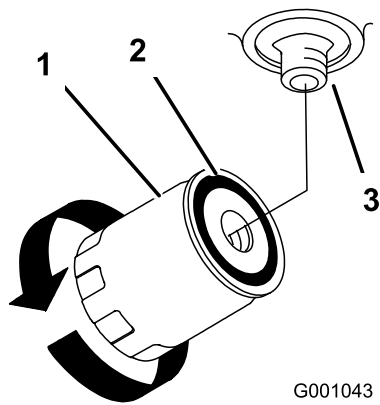

Figure 50
4. Locate filter under engine base and place drain pan under filter (Figure 50).
5. Remove the old filter and wipe the filter adapter gasket surface clean (Figure 50).
9. When the hydraulic filter is full, turn the oil filter clockwise until the rubber gasket contacts the filter adapter, then tighten the filter an additional 1/2 turn (Figure 50).